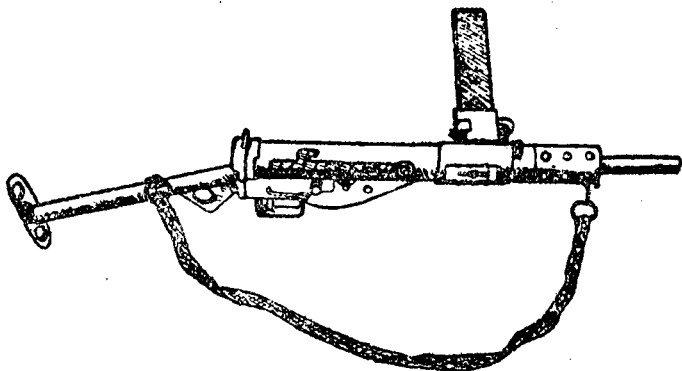

Fig. 2
*Machine carbine; magazines; Fig. 2 target.*